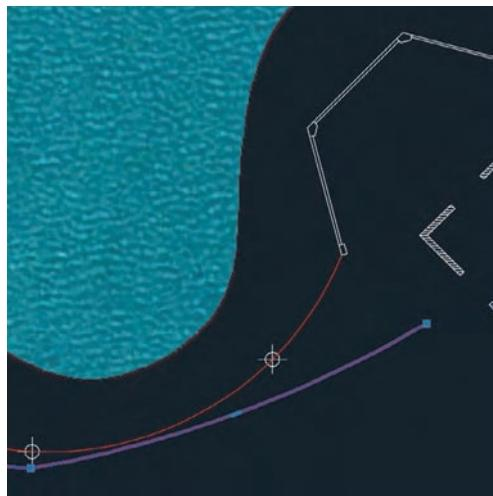

FIGURE 5.6 Adjusting an existing polyline with its grips
11. Pan to the building at the bottom of the lake. Click the lower-left polyline to select it. Click the endpoint grip, move it down a short distance, and click again (see Figure 5.6). You can't get the end of the path to open up without distorting the path farther up because it's all part of the same arc segment.